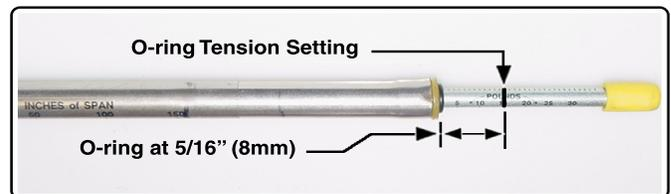

Figure 7-4: Tension Gauge
If the deflection is more or less than 5/16" (8mm), follow the procedure below to tighten, respectively – loosen the belt to exert the necessary tension on the gauge. (See Figure 7-4: 'Tension Gauge.')
Push gauge towards the belt until the body of the gauge moves 5/16" (8 mm) along the scale (or ruler). Remove the gauge and read the tension that the rubber O-ring marked. If tension is lower than 16 lbs. (7 kg.), the belt is loose; if the tension is greater than 20 lbs. (9kg.), the belt is too tight. (See Figure 7-4: 'Tension Gauge.')
1. On the strain gauge, slide the narrow O-ring as close as possible to the body of the strain gauge. (See Figure 7-4: 'Tension Gauge' on page 57.)
6. Read the tension, marked by the narrow O-ring. (See Figure 7-4: 'Tension Gauge' on page 57.)